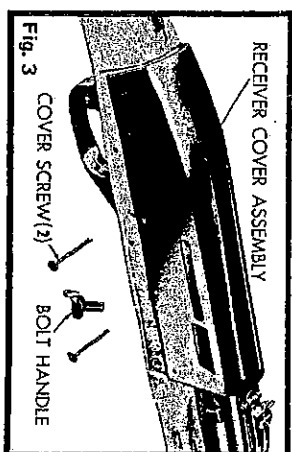

Fig. 3
2. Pull out bolt handle. Unscrew and remove the two (2) cover screws and slide the receiver cover assembly upward and remove from rifle (Fig. 3).